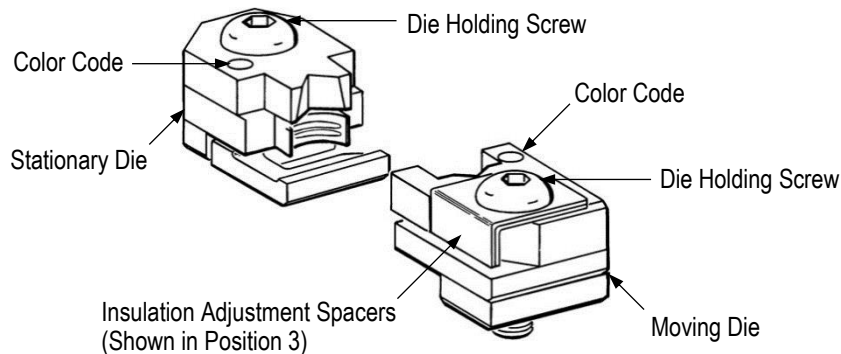

Figure 1
The terminal crimping dies listed in Figure 1 are designed to be used with hand tool 69710-1 to crimp PIDG PEEK STRATO-THERM terminals onto wire sizes 24 through 10 AWG. Refer to instruction sheet 408-2095 for information concerning the hand tool. For other compatible tooling, call the number at the bottom of this page.
- Turn both insulation crimp adjustment spacers so that they fit into the notch in the side of the moving die for position 3 - loose. See Figure 1.
2. Turn both insulation adjustment spacers of the moving die so that they fit into the notch in the side of the die (position 3 - loose). See Figure 1.